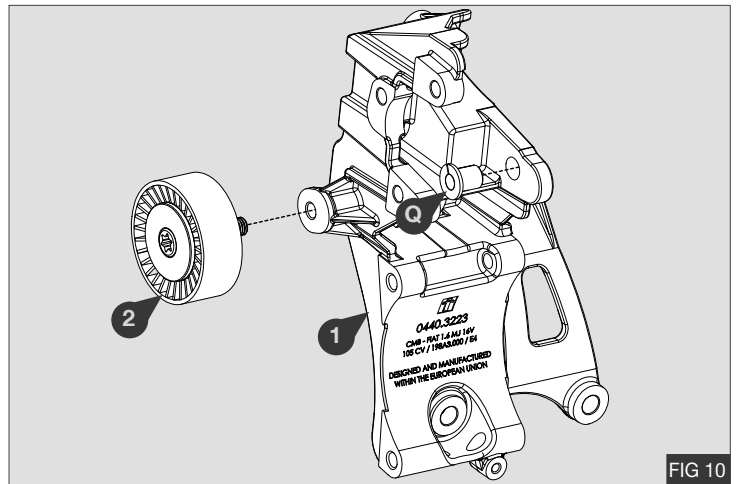

FIG 10
1. Mount the idler (2) onto the mount bracket Torque M10 x 30 bolt - 58 Nm / 42.7 lb.ft
2. Install the sliding bush (Q) into the mount bracket (1) - Fig 10